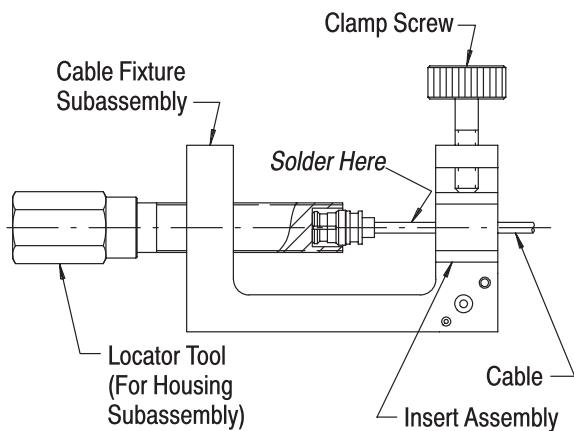

Figure 5
9. Place the assembly in the cable fixture subassembly as shown in Figure 5. Tighten the clamp screw to secure the cable, and tighten the locator tool to seat the housing subassembly firmly against the cable.
10. Using solder made of 60% tin and 40% lead, join the housing subassembly to the cable at the location shown in Figure 5.